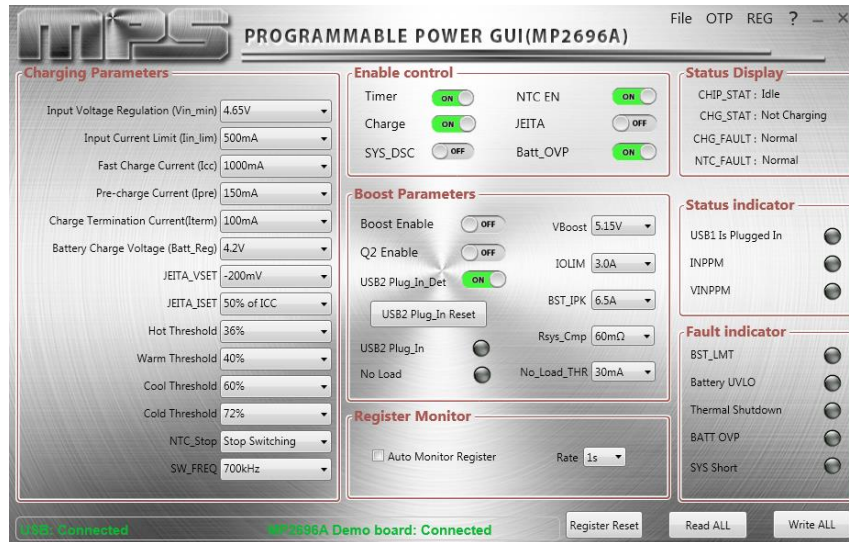

Figure 7: USB Communication Interface and the MP2696A EVB Show as Connected
- If the connection is successful, both the USB and MP2696A demo board statuses will appear as “Connected” in green (see Figure 7).
2. Click the “Read All Register” button to read the I²C register values. The default values are displayed (see Figure 7).